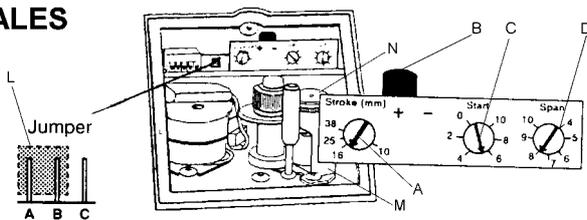

Fig.9
3. See Fig.9. Loosen the pot fixing screw 'M'. By sliding the pot assembly towards you, disengage gear 'N' from the main drive shaft. Turn the pot gear 'N' by hand in the anti-clockwise direction (when viewed from above) until the end stop is reached. Gently slide the pot assembly back into position so that the pot gear 'N' engages with the main drive shaft. Do not apply too much force in meshing the gears as over pressure will result in reduced life. Re-tighten the location fixing screw 'M'.